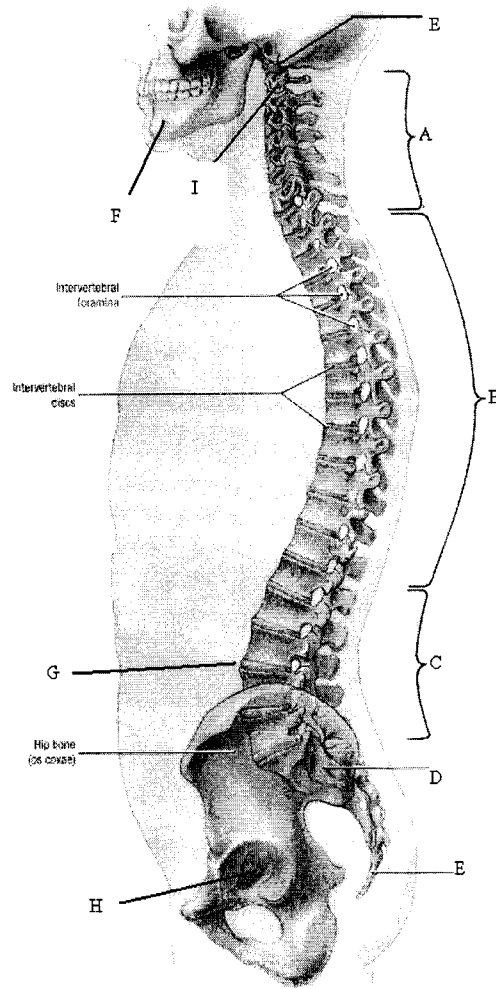

Figure 4: Spine
1.5. According to Figure 4, What are names of bones A, B, C, D, E and F? (6 points)
2.2. According to Figure 4, What kind of joint at location E, I, G and H? (4 points)